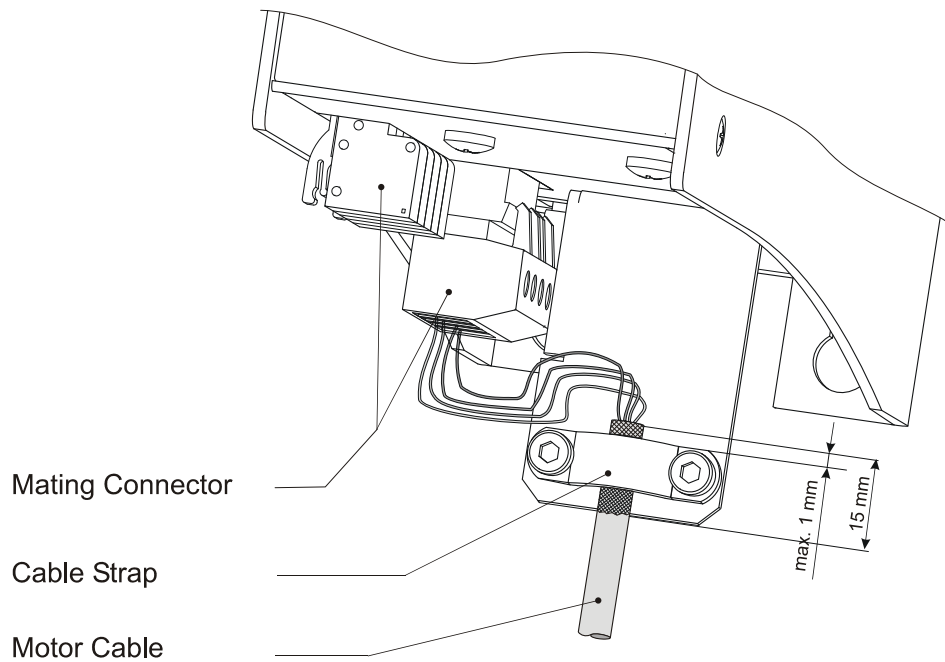

Fig. 3: EMC-compatible connection of motor cables
- Connect the motor leads according to fig. 3, page 22.